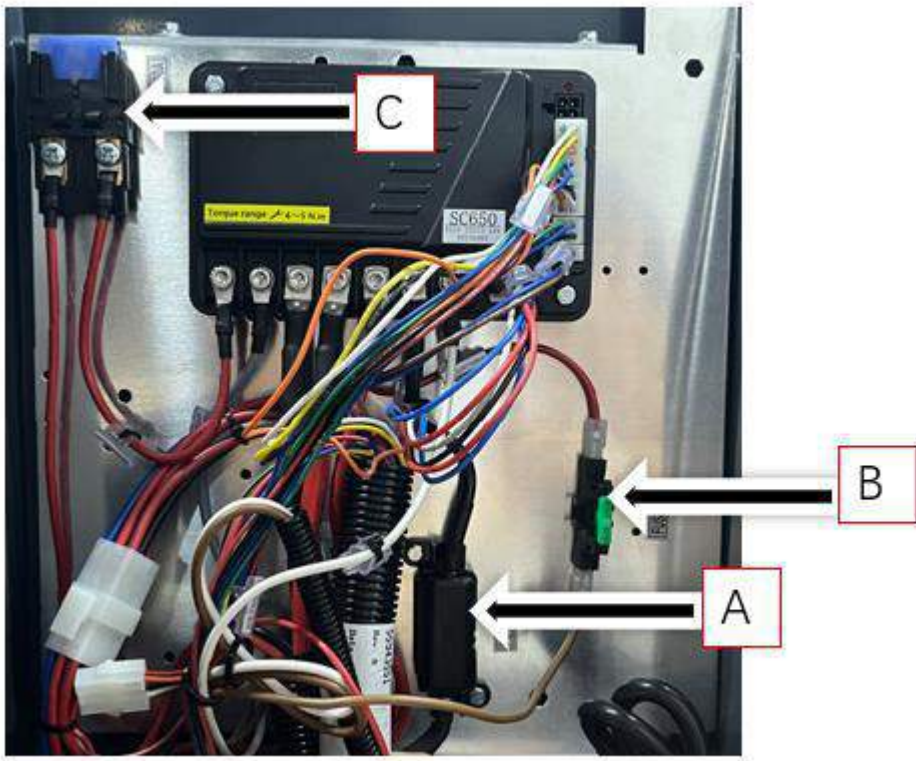

Figure 14
3. Check/replace the following fuses (Figure 14):
- (A) Brush deck fuse F1: (50 A)
- (B) Vacuum system fuse F2: (30 A)
- (C) Drive system fuse F3: (60 A)